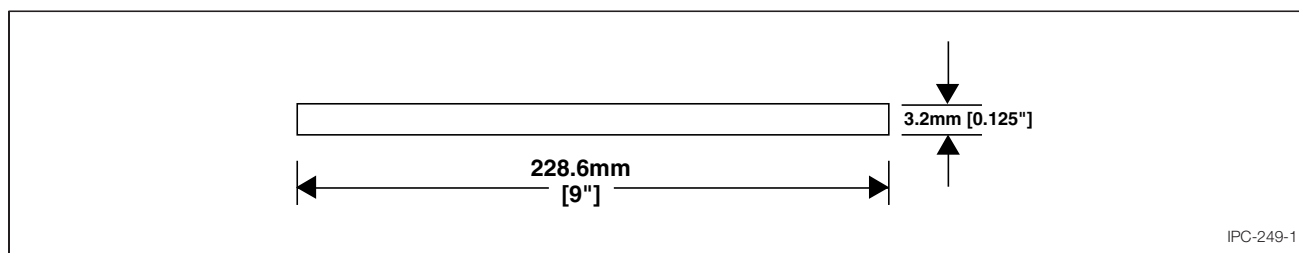

Figure 1 Type A Peel Strength Test Pattern
3.1.1 The test specimen **shall** consist of an etched conductor pattern in accordance with Figure 1. **Note:** Conductors are 3.2 mm wide by 228.6 mm long [0.125 in wide by 9 in long].